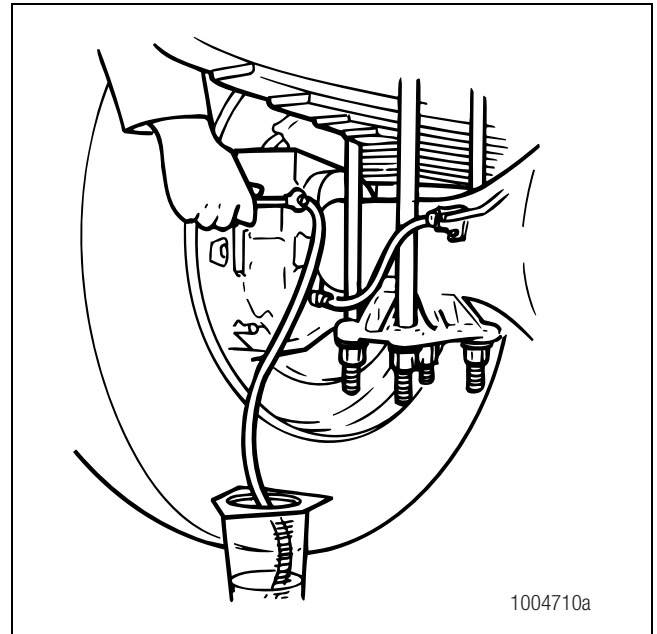

Figure 5.2
12. Open one caliper bleeder screw until fluid begins to flow (3/4 turn). Allow the fluid to run until 8.5 ounces (250 cc) has been collected. Take note of the fluid level in the bottle before starting. Figure 5.2.